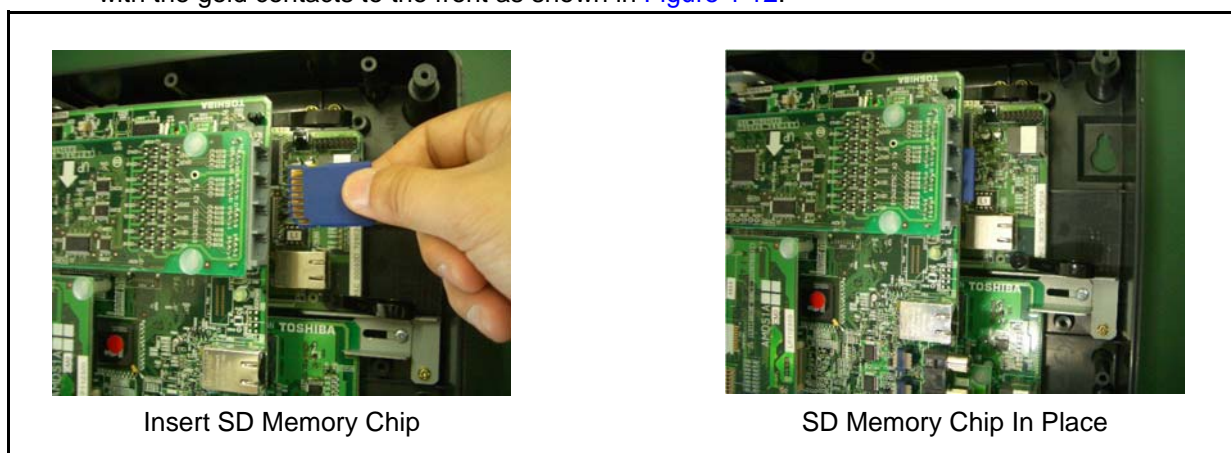

Figure 1-12 SD Memory Chip Insertion
The processor has an on-board SecureDigital™ memory card slot. A SecureDigital (SD) flash memory card can be inserted into the slot to backup and restore customer program data. It also makes it easy to upload operating system data for software upgrades and is used to store maintenance log files. Notice that the SD slot may be difficult to see. Insert the SD memory chip with the gold contacts to the front as shown in Figure 1-12.